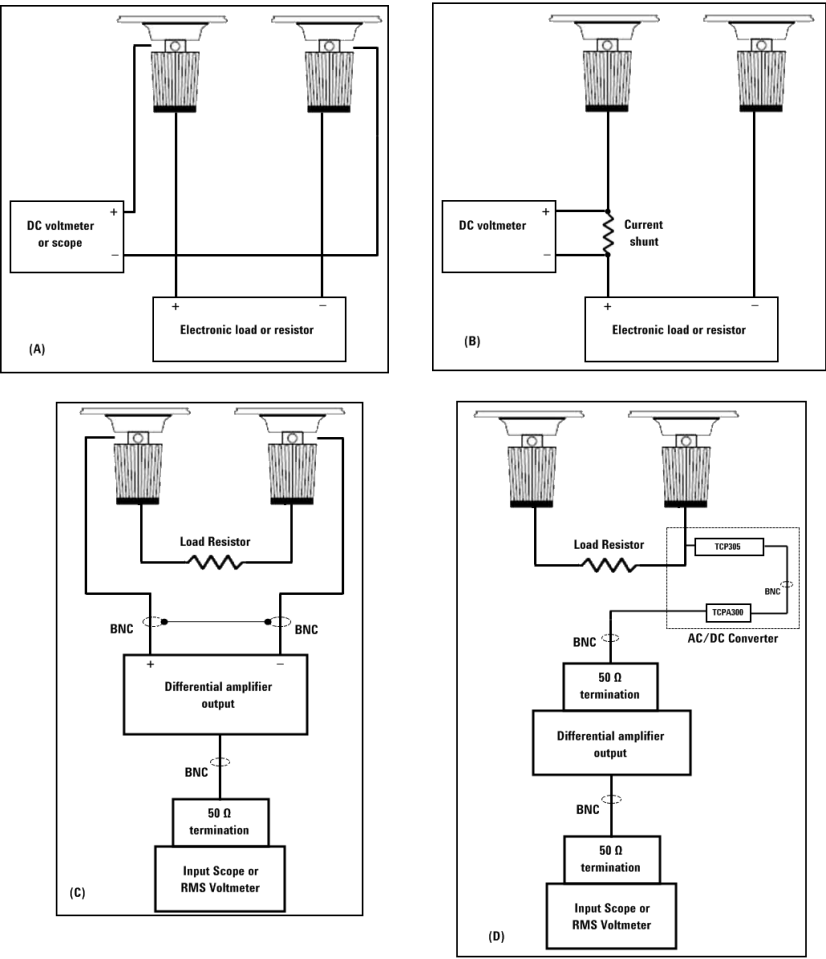

Figure 5-2 Test Setups
- 1 Power off the power supply and connect a DMM between the (+) and (–) terminals of the output to be tested. Remove the electronic load or resistor block as shown in Figure 5-2 \(A\), to operate as an open circuit.
- 1** Power off the power supply and connect a DMM between the (+) and (–) terminals of the output as shown in Figure 5-2\(A\).
- 1 Power-off the power supply and connect a DMM between the (+) and (–) terminals of the output to be tested as shown in Figure 5-2\(A\).
- 1 Power off the power supply and connect the output to be tested as shown in Figure 5-2\(C\) to a differential amplifier and load resistor (10 Ω for U8001A and 6 Ω for U8002A)
- 1** Power off the power supply and connect the output to be tested as shown in Figure 5-2\(A\) with an oscilloscope. Operate the electronic load in constant current mode.